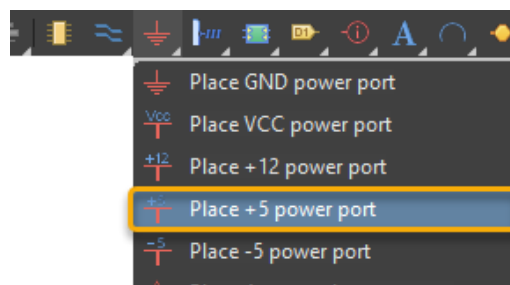

Figure 14. Place Power Port menu
22. Next place the remaining power ports, again using the **Active Bar** (or from the **Place » Power Port** menu). You may need to Right Mouse Click on the Active Bar to select the appropriate power port, as shown in Figure 14.